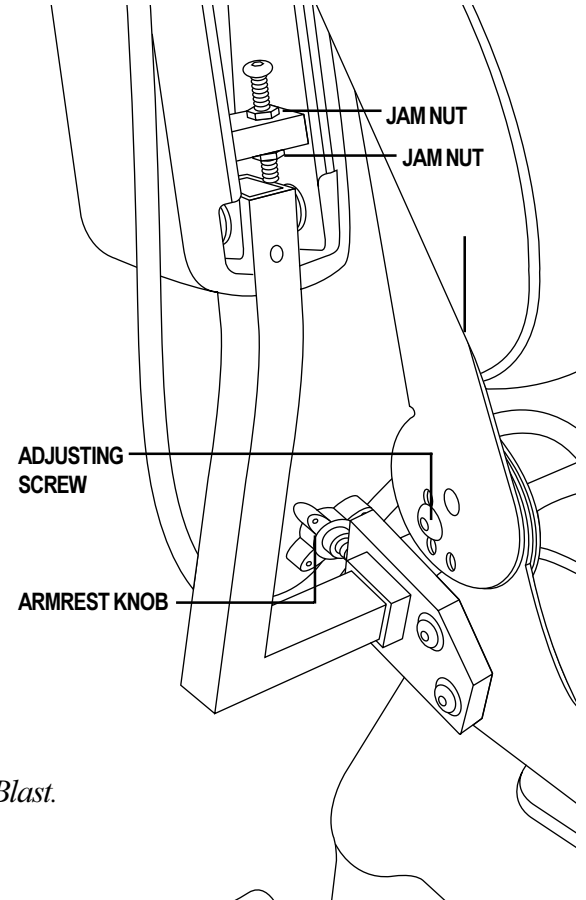

Figure 12. Seatback and Armrest Adjustments
1. Remove the adjusting screws on both seat hinges. See figure 12.
1. Locate the two armrest knobs on each side of the armrest receiver bracket. See figure 12.
2. Loosen the jam nuts. See figure 12.
4. Turn the adjusting screw clockwise to raise the front of the armrest, or turn the adjusting screw counterclockwise to lower the front of the armrest. See figure 12.